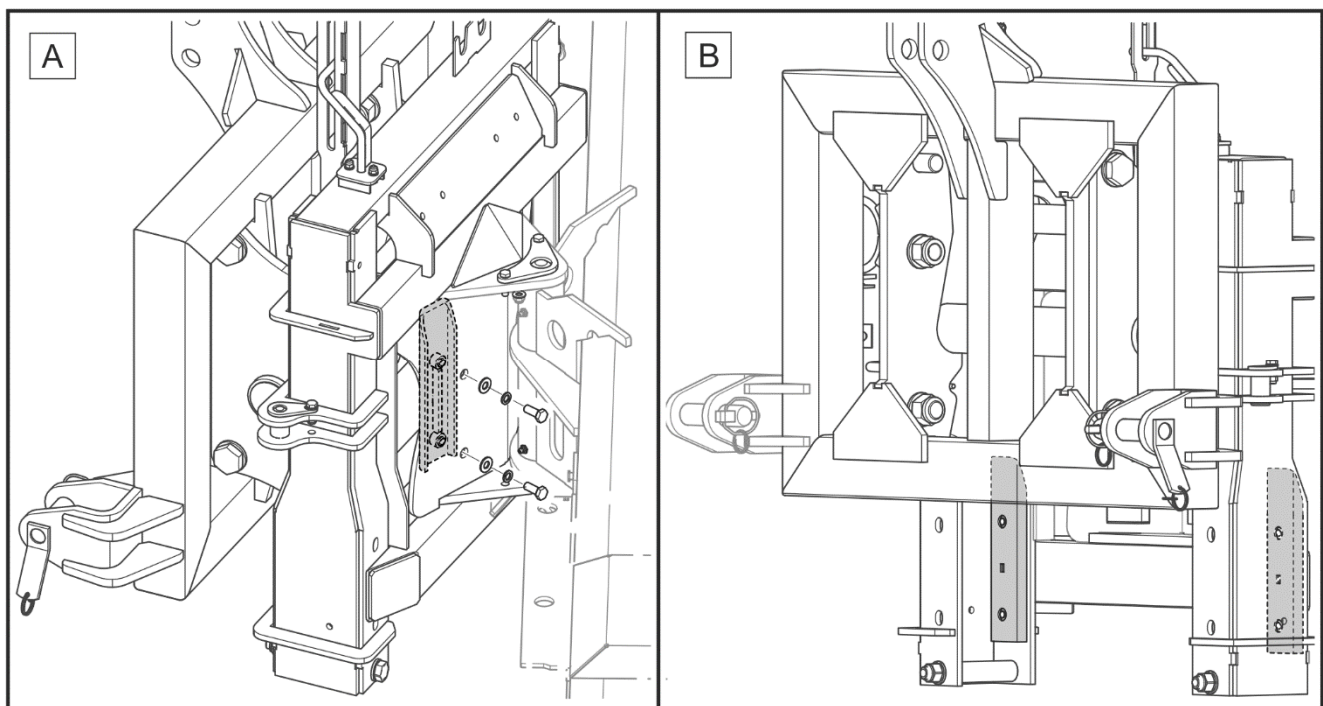

FIGURE 4.7 Linkage tilt interlocks
When operating the sweeper without the waste tank or with raised waste tank (e.g. when sweeping sideways), the linkage forward tilt interlocks should be used (FIGURE 4.7). The interlocks are stored on the linkage frame. In order to use the linkage tilt interlocks:
- Lock the linkage (FIGURE 4.7)